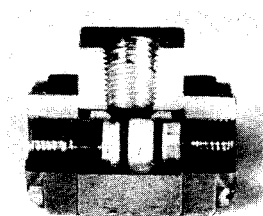

FIGURE 8-4 - SHUTTLE VALVE
Shuttle Valve (Figure 8-4) - Also known as a double check valve, the shuttle valve is a device which will take two (2) supply signals and allow the one with the highest pressure to pass through. The shuttle valve is used in the Low Demand control system with reservoir blowdown to allow the control to work from both the oil reservoir and the plant air system side of check valve.